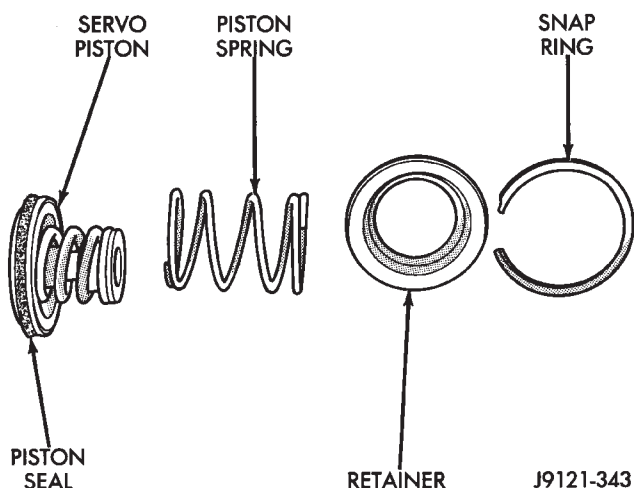

Fig. 104 Rear Servo Components
(1) Install rear servo piston, spring and retainer (Fig. 104). Install spring on top of servo piston and install retainer on top of spring.